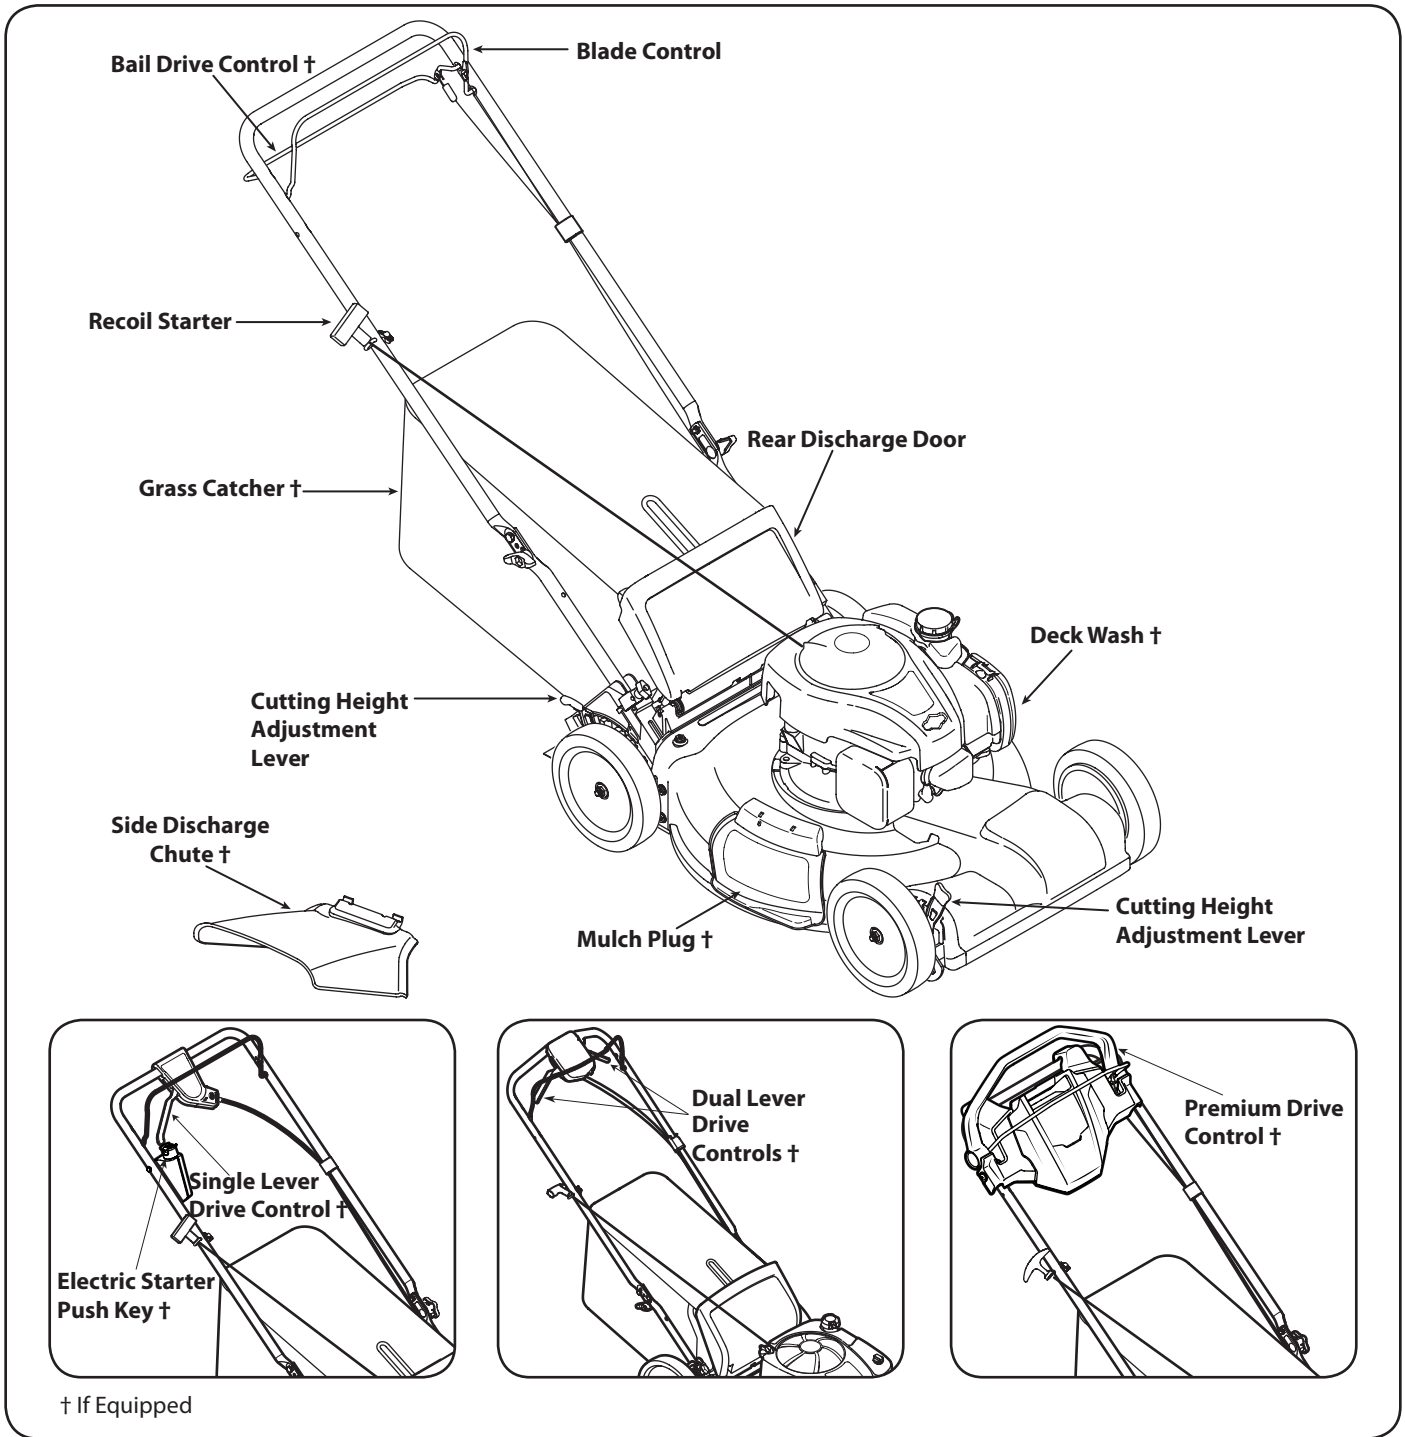

Figure 3-1
- Cable Clips † (2)
- Lawn Mower Operator's Manual (1)
- Fast Start Guide † (1)
- Grass Catcher † (1)
- Electric Start Push Key † (1)
- Engine Operator's Manual (1)
- Side Discharge Chute † (1)
- Oil (1)
- Parts/Warranty Document (1)
**NOTE:** This Operator's Manual covers several models. Features may vary by model. Not all features in this manual are applicable to all models and the model depicted may differ from yours. Handle assembly is the same on all units, however, refer to Figure 3-1 in the Controls & Operation section to determine the handle controls your model has and page 10 for instruction on how to use them.